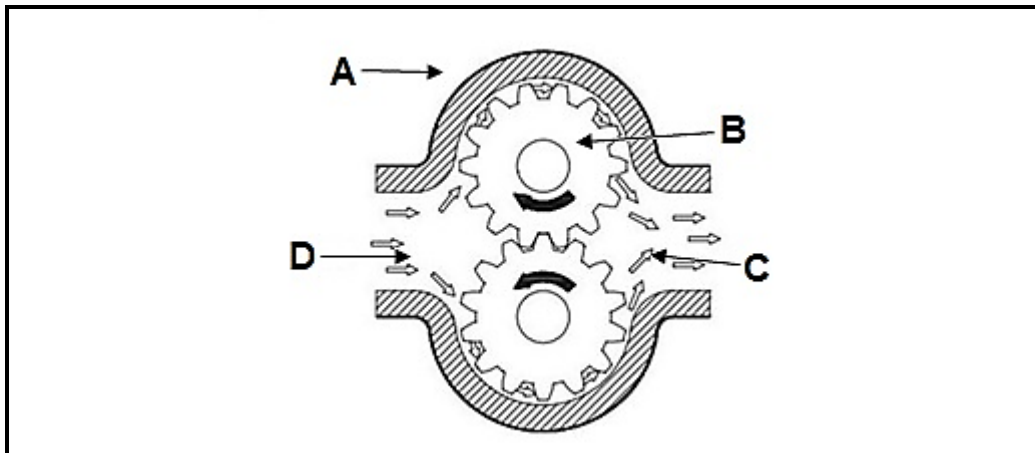

FIGURE 8.1
8.1 What type of oil pump is shown in FIGURE 8.1 below?
8.2 Label parts **A** to **D** in FIGURE 8.1 above.